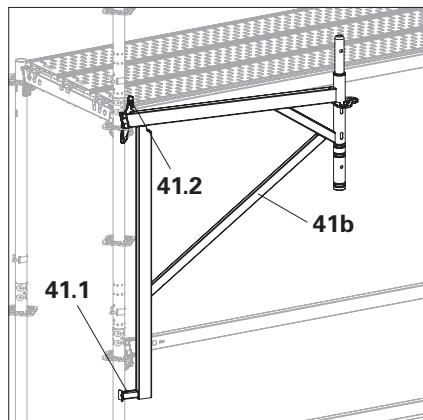

Fig. A6.03
1. Hang the console bracket (**41b**) into the rosette of the standard or top standard parallel to the scaffold. (Fig. A6.03)